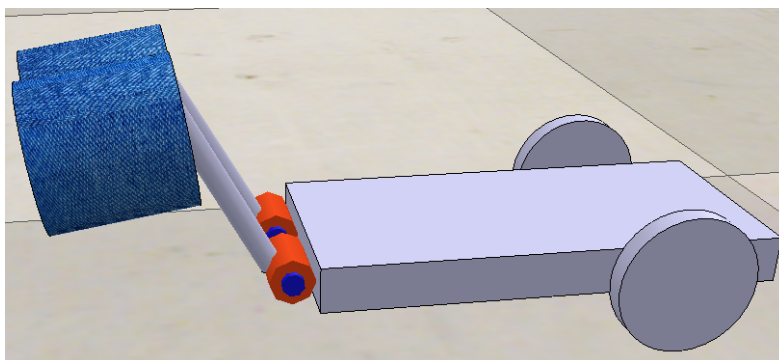

Fig. 5. The robot lifting the objective off the ground.
- 8.3. Once req. 8.2 is satisfied, the robot will secure the objective by lifting it up off the ground (seen in Fig. 5).